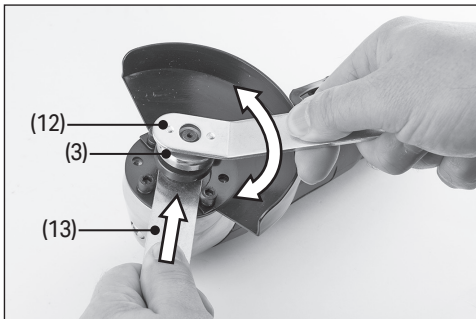

Fig. 4
6.4 Installing Grinding Wheel/Disc – Fig.4
- Remove the flange nut (3) from the output shaft using the spanners supplied (12) and (13).
- Place the shaft spanner (13) between the guard bolts onto the flat section of the shaft.
- Locate the pin spanner (12) over the end of the output shaft and locate the two pins into the holes on the top of the flange nut.